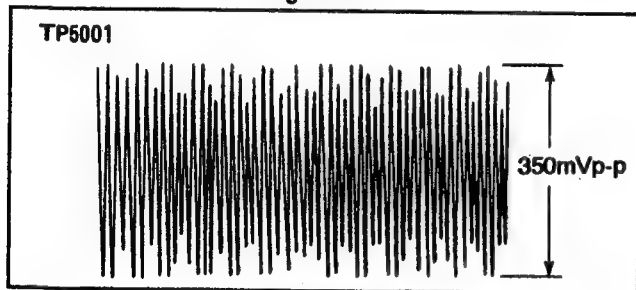

Figure E30
5. Adjust VR4504 so that the level become 350mVp-p \pm 5mVp-p as shown in Figure E30.